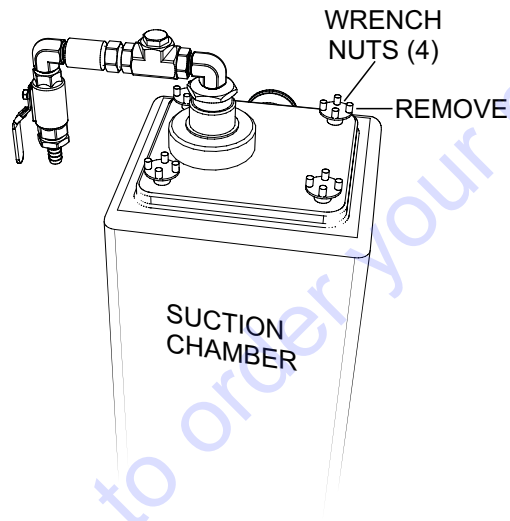

**Figure 43. Vacuum Gauge**
2. Attach a 0 to 30 inch vacuum gauge to the free end of the venturi hose as shown in Figure 43.